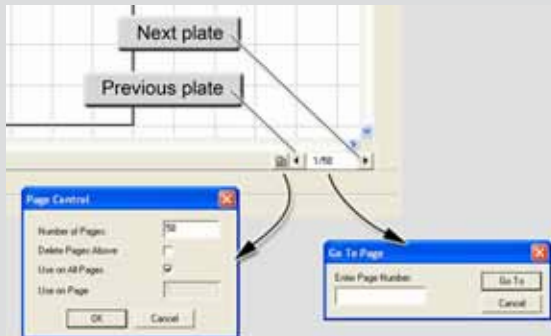

Fig 39 - Use the **Paging Tool** to browse each badge.
3. To view the remaining badges, use the **Paging Tool** that is at the bottom-right corner of the workspace. Click the **Forward** and **Back** navigation buttons to access the other badges. (Fig. 39)